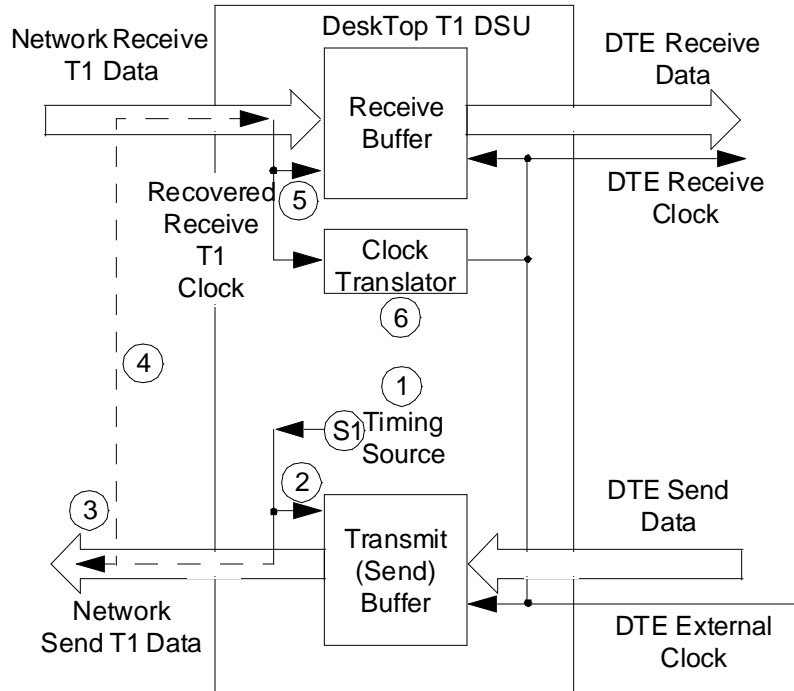

Figure C-2 Internal Timing
With Internal Timing, illustrated in *Figure C-2*, the DeskTop T1 DSU provides the send timing source (1) for T1 data output from the transmit buffer (2) to the network. (This clock satisfies the requirements of a Stratum 4, Level II clock, as defined in AT&T Technical Reference 62411.) The remote DSU uses this as its timing reference (3) and loops it back to the DeskTop T1 DSU (4). The DeskTop T1 DSU recovers the receive T1 clock from the network receive T1 data and uses it to clock T1 data into the receive buffer (5). The DeskTop T1 DSU also translates (6) the receive T1 clock to provide the channel transmit and receive clock signals on the appropriate channel interface leads.